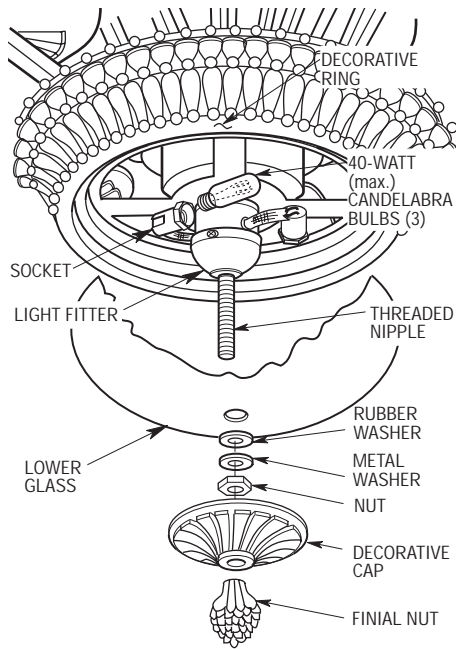

Figure 17
- 7. Screw in three 40-watt (maximum) candelabra bulbs in the light fitter sockets (Figure 17). Carefully place the lower glass over the light fitter threaded nipple. Be sure the glass is firmly seated in the decorative ring, then secure in place using a rubber washer, metal washer, and nut (washers and nut are supplied).
- 8. Place the decorative cap over the threaded nipple and then screw on the finial nut (Figure 17).